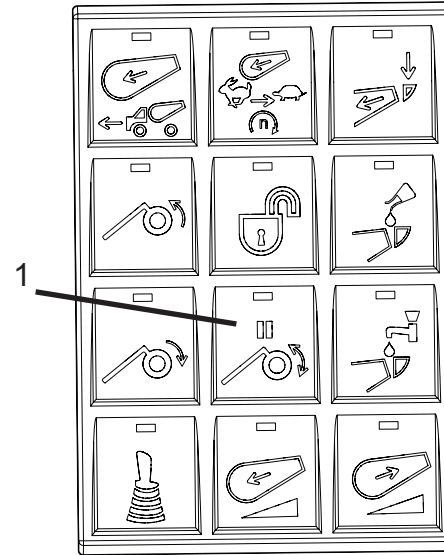

Figure 49
- A Bridgemaster axle STOP button is on an in-cab keypad and is used to stop axle motion (Figure 49, Item 1). **NOTE:** The STOP button will also stop the chute raise/lower functions.